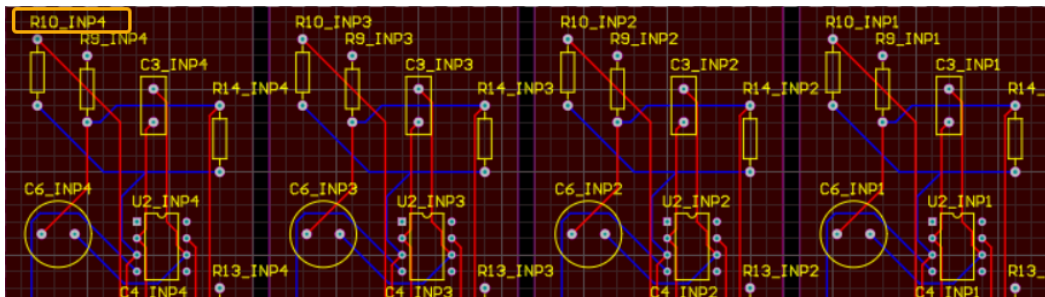

Figure 6. Channel Linked Designator
21. Look at the designators in the placed rooms within the board area. They have the format, `Designator_Channel`. For example, `R10_INP4`, as shown in Figure 6.